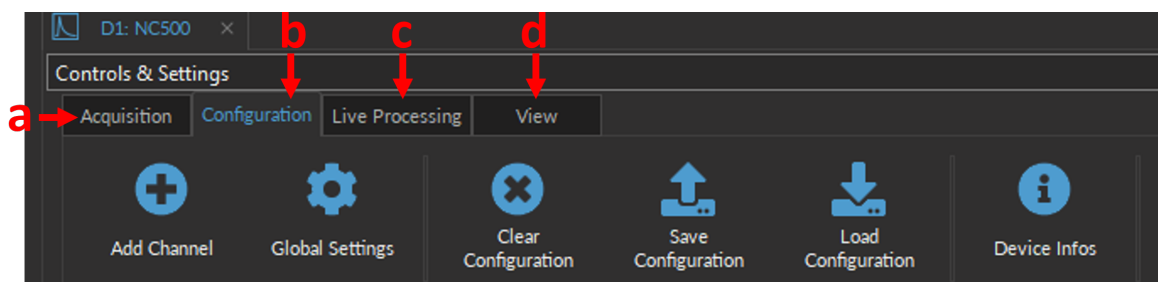

Figure 11.5: Control & Setting Tabs
- a) The **Acquisition** tab (Fig. 11.5, a) contains recording-related tools.
- b) The **Configuration** tab (Fig. 11.5, b) contains channel configuration-related tools. See **Table 11.1** for a complete list of available channel types, their use cases, and their individual User Manual Sections.
- c) The **Live Processing** tab (Fig. 11.5, c) contains preset configurations, such as **Filters** (Section 11.7.1.1), **Interleaved** (Section 11.7.1.2), **Lock-In** (Section 11.7.1.3) and **Ephys** (Section 11.6.4).
- d) The **View** tab (Fig. 11.5, d) contains visualization-related tools.